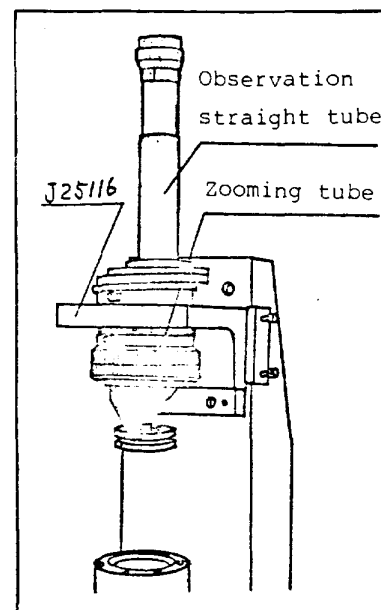

Fig. 54
- a) Set the zooming ring at 0.66X (Fig. 54).